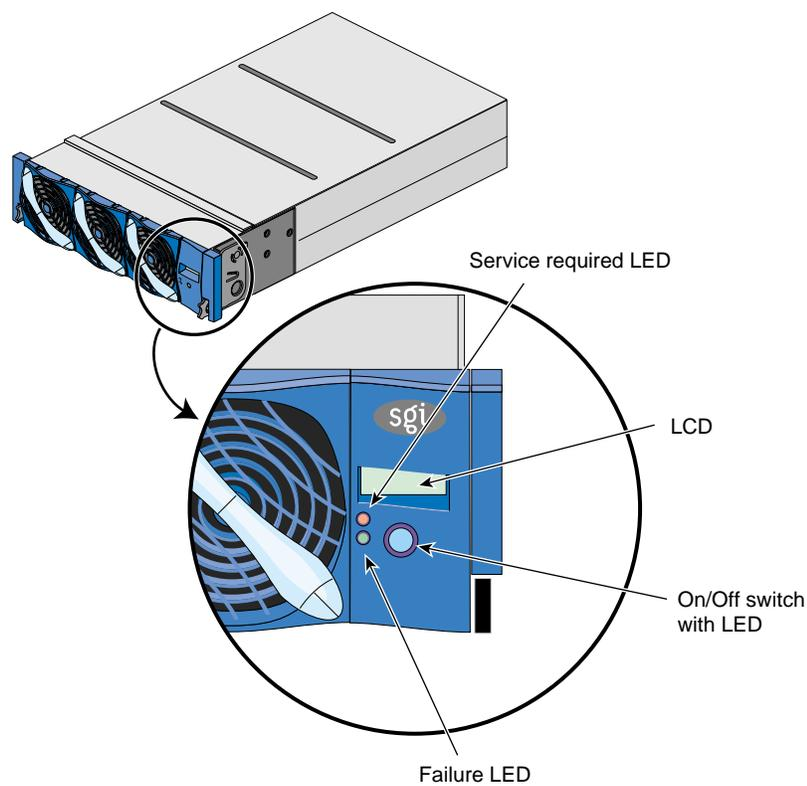

Figure 2-26 L1 Controller Display
- On the L1 controller's display located at the right-hand corner of each brick (except the D-brick), as shown in Figure 2-26, you can monitor brick items. For example, you can see if the fans on a particular brick are operating properly.